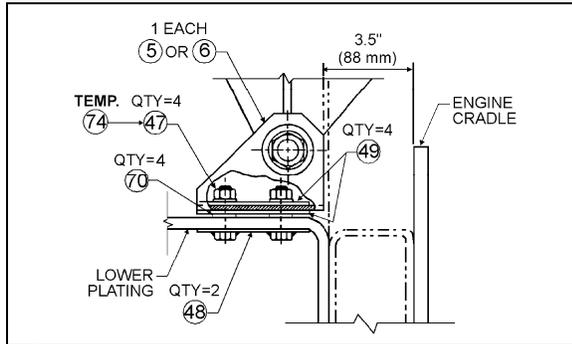

FIGURE 17: ANGLE SUPPORT 05014
1. Install both attachment assembly plates (P/N 051779) (48, Fig. 17) through lower plating and secure with four spring nuts (P/N 500666), (70, Fig. 17). Then install one spacer (P/N 050705),
(49, Fig. 17) on each spring nut at both anchoring locations (Fig. 17).
- Center seat assembly in the fan shroud using the horizontal displacement of the fan driving mechanism support. Center with the slots in the floor at anchoring angle support (on some vehicles only). Vertical displacement of the fan clutch is made possible by slots at the base of the fan clutch (on some vehicles only) or by shimming with additional spacers at anchoring locations. Temporarily secure assembly with two nuts (P/N 500709), (74, Fig. 17) at both anchoring locations.
- Check alignments again (steps 3, 4 & 5) then replace temporary anchoring nuts (P/N 500709) (74, Fig. 17) with four nuts (P/N 500714) (47, Fig. 17) and tighten using a wrench.